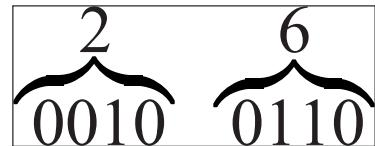

Figure 8.25: BCD to Binary: 26 [2]
For BCD to binary, we begin by example shown in Figure 8.25
- In Figure 8.25, we have the example from decimal to BCD